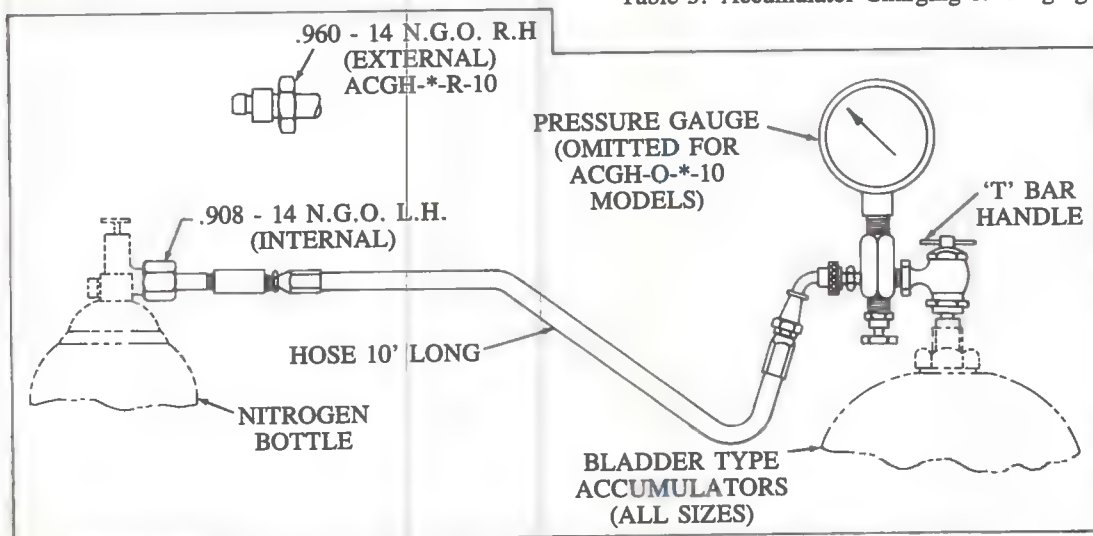

Figure 2. Accumulator Charging & Gauging Device.
2. Attach a charging hose assembly directly from the nitrogen bottle to the accumulator. Turn the 'T' bar handle inward to depress the valve core of the bladder. See Figure 2 for charging hose connections. Refer to Table 3 for the appropriate accumulator charging and gauge assemblies.
16. Accumulator charging devise (see Figure 2 and Table 3)